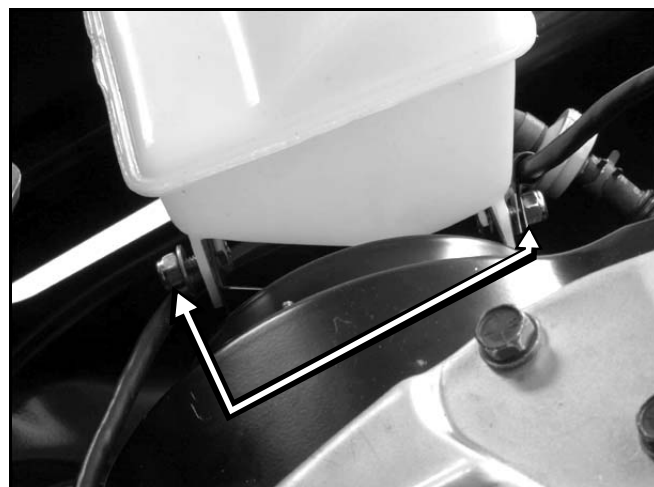
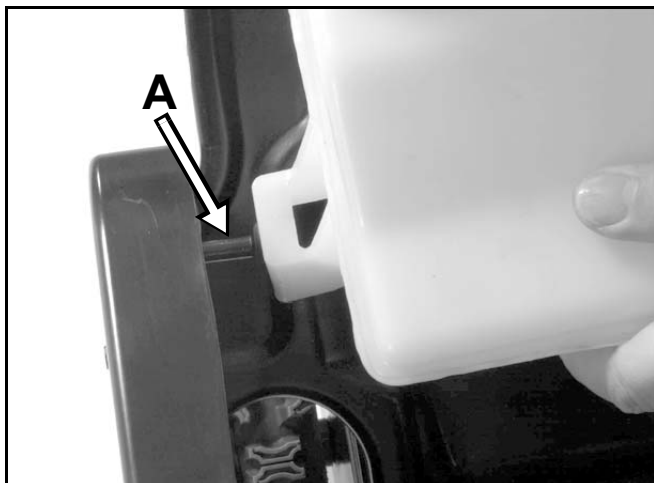

Figure 18
Figure 19
5. To remove the fuel tank, remove the two bolts and locknuts on the left side of the tank (Figure 18). Then slide the tank to the left to disengage it from the support pin on the right side (Figure 19). Lift the tank out of the machine.